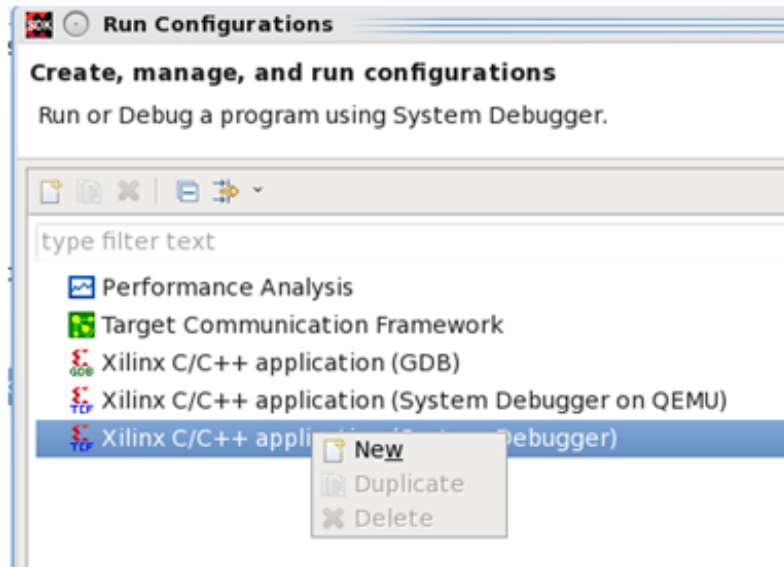

Figure 5-23: Run Configurations
10. In the **Run Configurations** popup menu, right-click **Xilinx C/C++ application (System Debugger)** and click **New** (Figure 5-23).